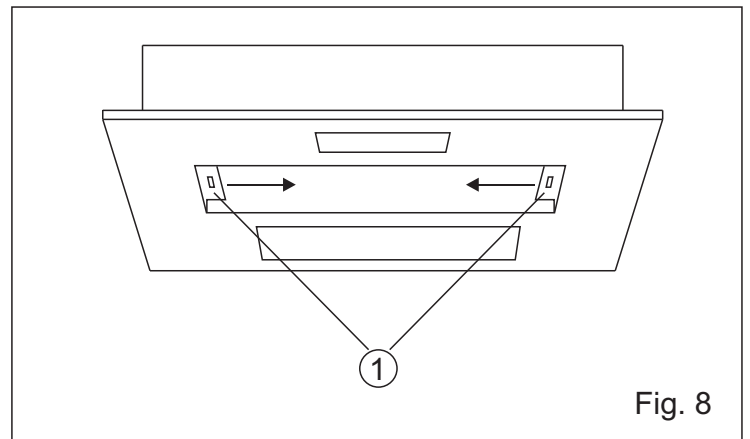

Fig. 8
1. Press the 2 grips one towards the other (Fig. 4/1) and unhook the grille. For the models which are fitted with an aluminium grease filter-box, remove the aluminium filter as in point 2 and pull the 2 latches (Fig. 8/1) inwards.